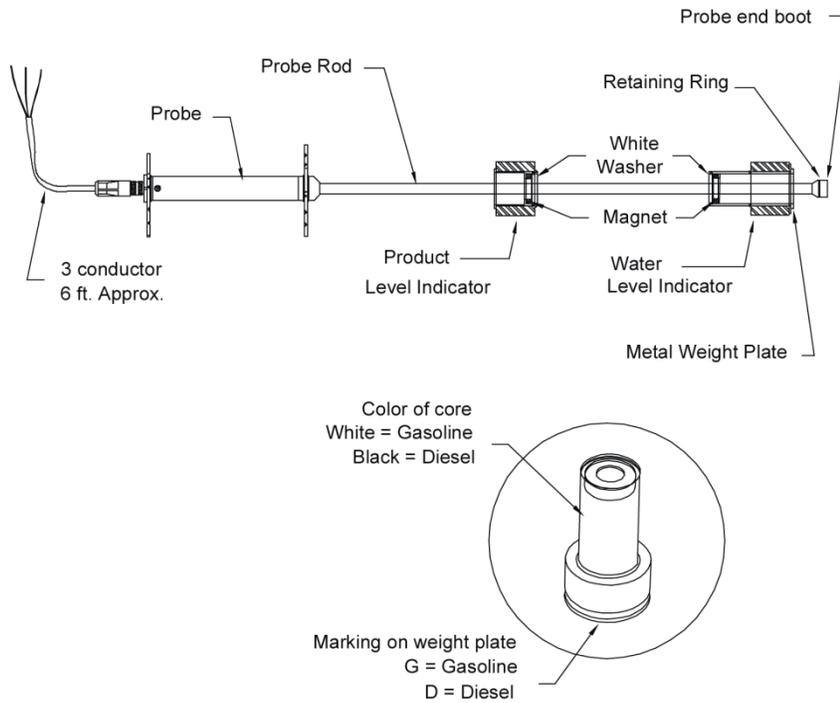

Figure 9-1 Probe Component Locator
Figure 9-1 on page 31 shows how the probe components work together. The Product Level Indicator floats atop the gasoline or diesel fuel and registers the overall height of the fuel. You can use the Product Level Indicator with or without a Water Level Indicator.
1. Review Figure 9-1 on page 31.